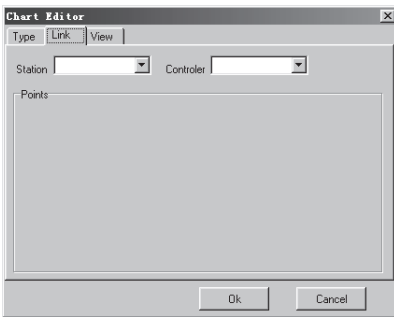

Fig. 4.33
1. Select and click the **quick icon**  and then move the mouse to the **drawing interface**, and the dialogue frame, as in Fig. 4.33, will be shown in the system.